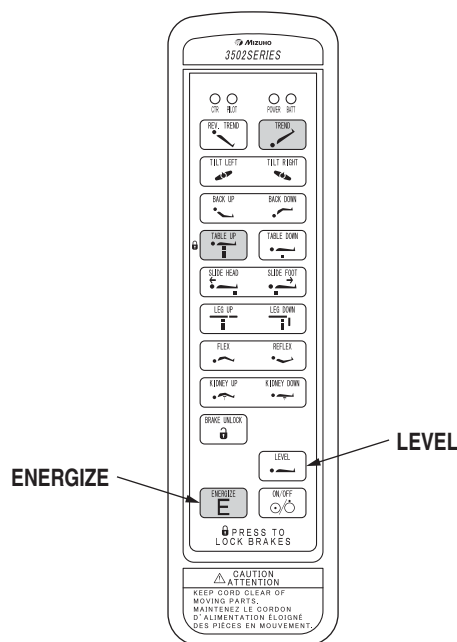

Figure 2-17. Return to Level
j. Return To Level To return the table top to a level position, press the ENERGIZE button and then the LEVEL button (figure 2-17).